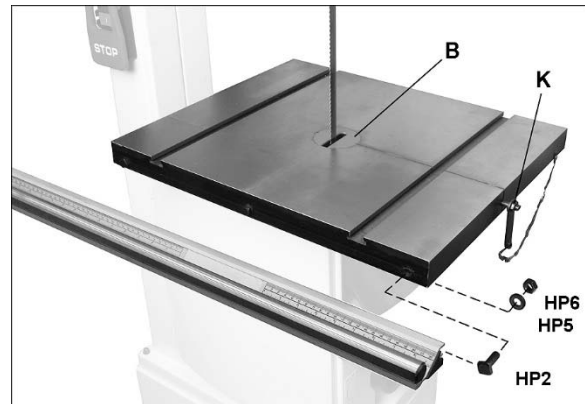

Figure 5-4: table and guide rail installation
Refer to Figures 5-4 through 5-6.
1. Remove insert (B, Figure 5-4).
3. Slide table from behind the blade toward the front, allowing blade to pass through table slot, then rotate table counterclockwise into final position, as shown in Figure 5-4.
4. Slide pin (K, Figure 5-4) into table edge; this prevents any deflection of table along blade slot.
1. Install three T-bolts with washers and nuts (see HP2/5/6, Figure 5-4) into front table edge. Leave T-bolts loose.
9. Verify that fence, top-to-bottom, lies flat against side of blade. If it does not, loosen guide rail nuts (see HP6, Figure 5-4) and raise or lower one end of guide rail as needed.